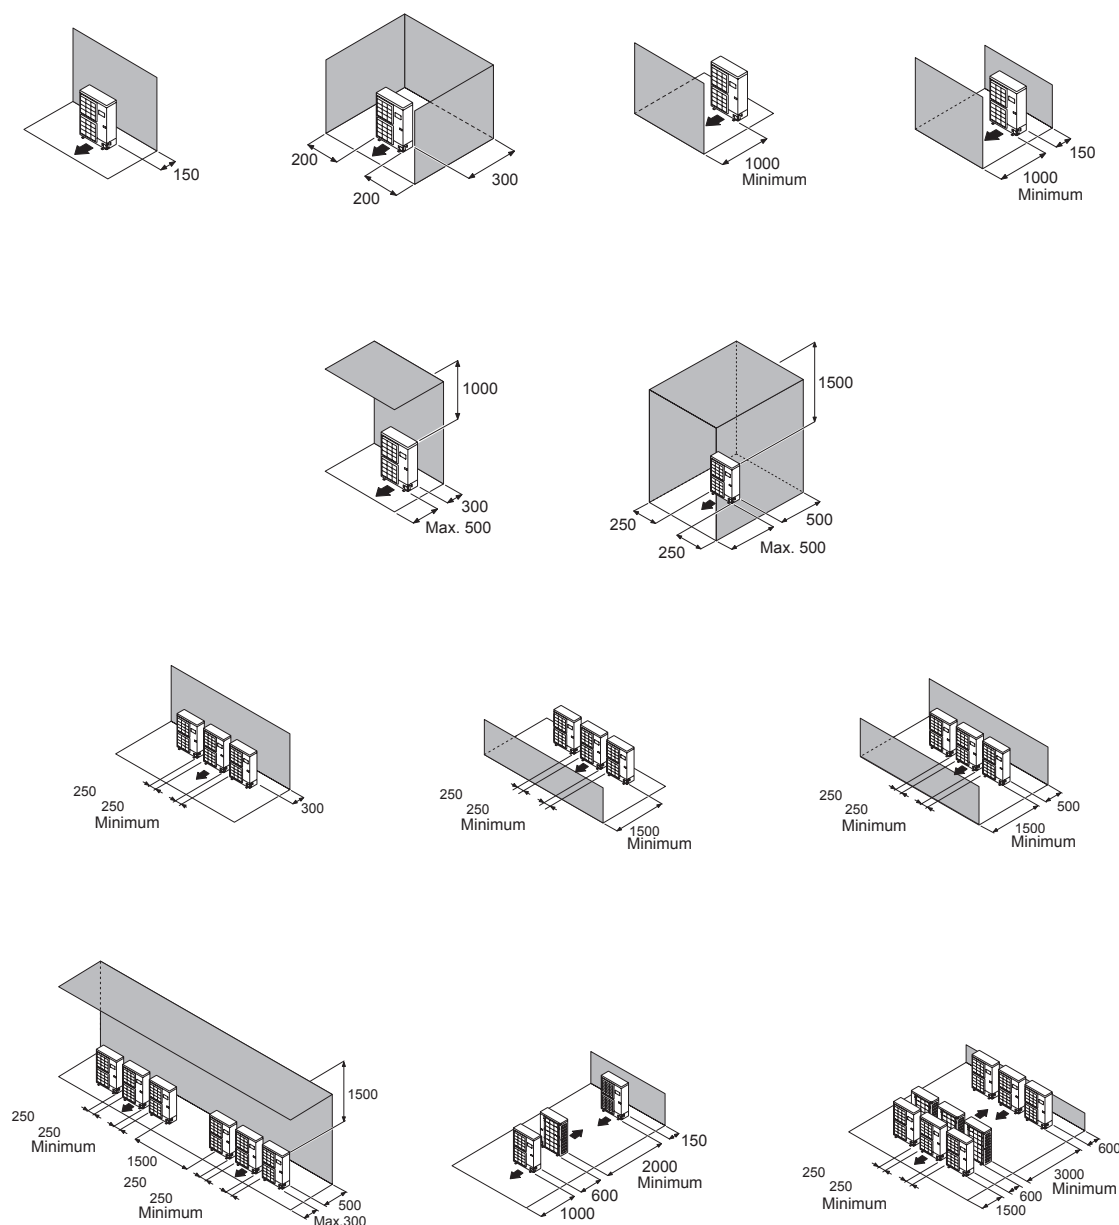

figure 13 - Minimum installation clearances around outdoor unit (all models)
- ☞ **The outdoor unit must only be installed outdoor (outdoors). If a shelter is required, it must have broad openings on the 4 walls and observe the installation clearances (figure 13).**
- Nothing should obstruct the air circulation through the evaporator and from the fan (figure 13).